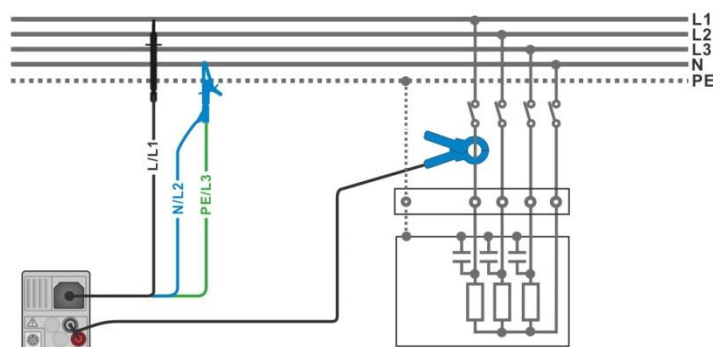

Figure 7.63: Power measurement
- › Connect the voltage test leads and current clamp to the item to be tested (see **Figure 7.63**).